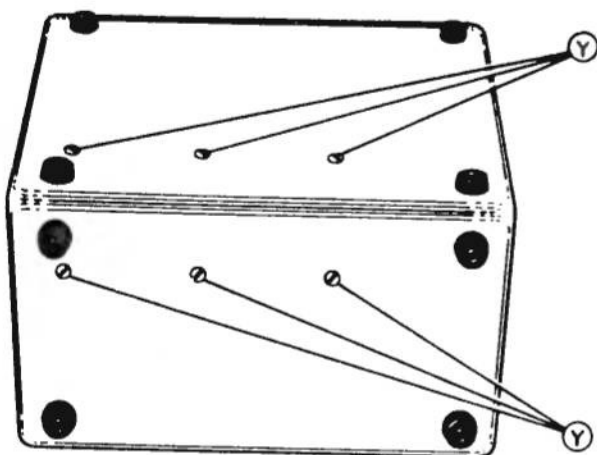

Figure 6-2. Rear View for Removal of Power Supply PP-1215/URM-26B from Case.
(2) To work on the power supply, it is necessary to remove it from the case. Take out three bindinghead screws located on the bottom of the case, and three others located on the rear of the case. These screws are marked "Y" in figure 6-2.